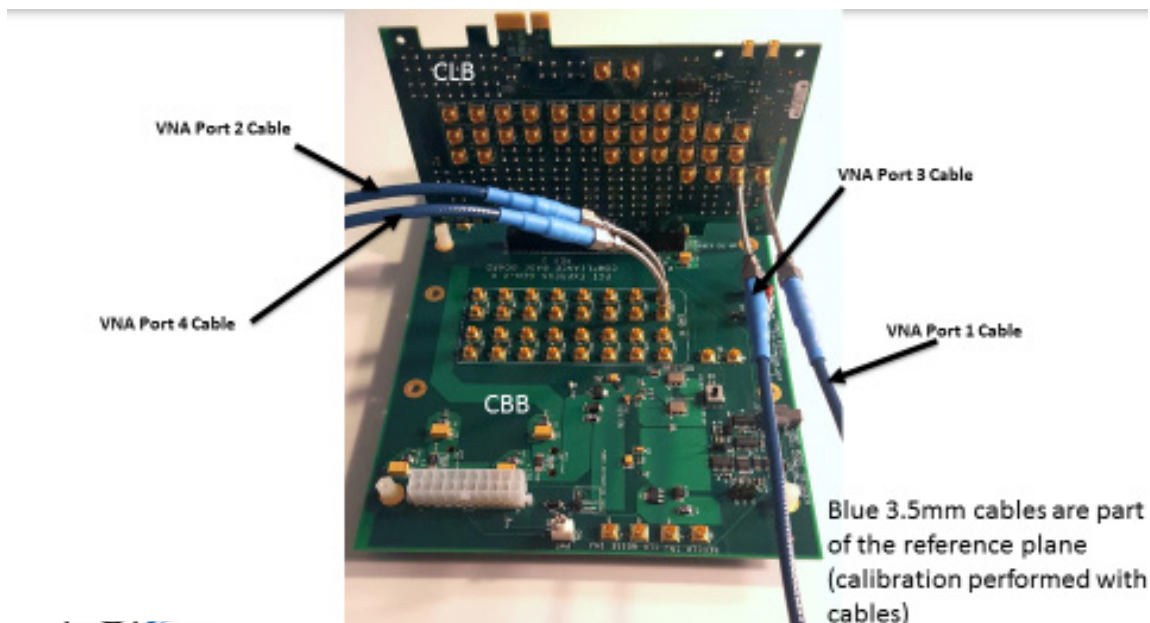

Figure 10. Measure CBB/CLB Loss (Image)
- ❑ Measure the IL of the CLB mated with the CBB establishes an easily measurable loss inclusive of the mated CEM connector (Figure 10).